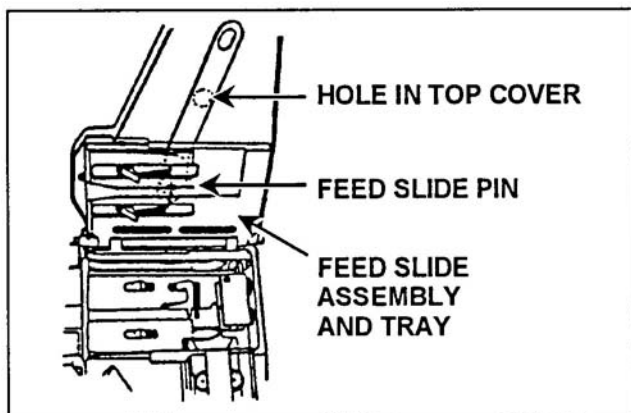

Figure 071-030-0001-21. Engaging the secondary drive lever
- g. Engage the secondary drive lever (figure 071-030-0001-21).